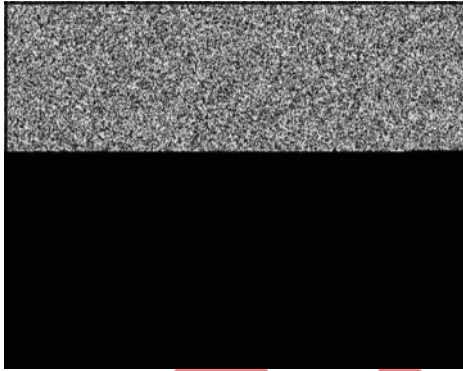

Figure 1
1. Drain oil from engine and all fuel from fuel tank. Drain oil from gear reduction unit (if equipped) and remove from engine (A, Figure 1).